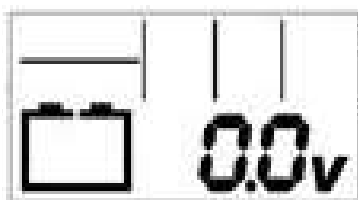
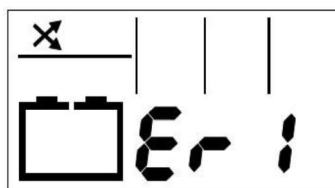

Fig. 7
Fig. 8
A. Connection and reverse polarity: select the battery to be charged, confirm the input voltage and then insert the power plug, enter into the initialization interface as follows Fig. 7; clamp the red clip of the output side to the anode of the battery, and clamp the black clip to the cathode; if the polarity is reverse, the red (Fault) LED flashes at 1Hz, and LCD displays as shown in Fig. 8